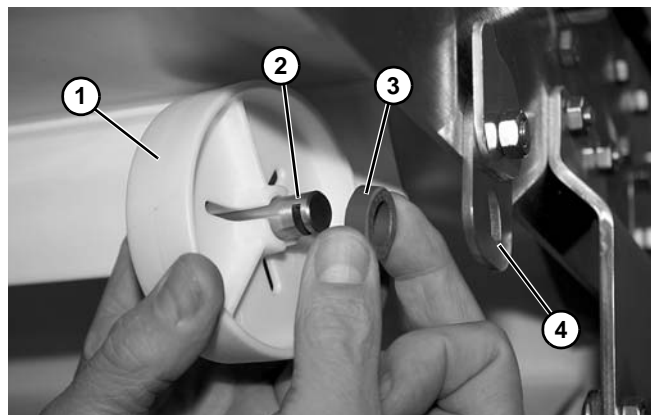

Figure 138
2. Remove puck (**Figure 138, item 1**), stub shaft (**Figure 138, item 2**), and spacer (**Figure 138, item 3**) from return bracket (**Figure 138, item 4**).